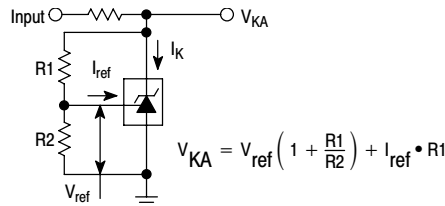

Figure 2. Test Circuit for  $V_{KA} > V_{ref}$
- The dynamic impedance ZKA is defined as:  $|Z_{KA}| = \frac{\Delta V_{KA}}{\Delta I_K}$ . When the device is programmed with two external resistors, R1 and R2, (refer to Figure 2) the total dynamic impedance of the circuit is defined as:  $|Z_{KA}'| \approx |Z_{KA}| \left( 1 + \frac{R1}{R2} \right)$
6. The dynamic impedance ZKA is defined as  $|Z_{KA}| = \frac{\Delta V_{KA}}{\Delta I_K}$  When the device is programmed with two external resistors, R1 and R2, (refer to Figure 2) the total dynamic impedance of the circuit is defined as:  $|Z_{KA}'| \approx |Z_{KA}| \left( 1 + \frac{R1}{R2} \right)$